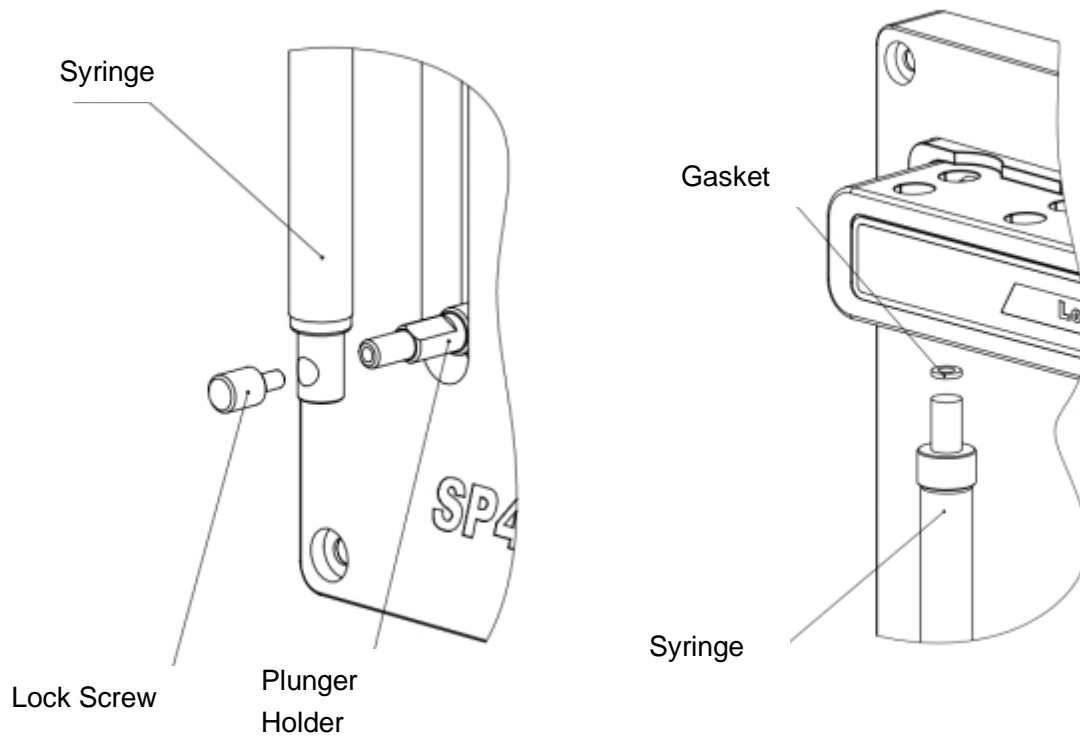

Figure 2-6 Syringe Installing
3. To install the syringe (as shown in Figure 2-6)